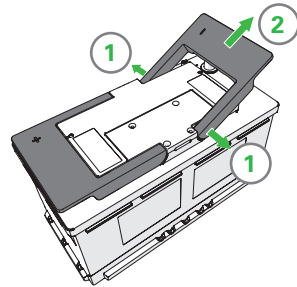

Figure 7.
- b) Remove the handles by pulling them outwards. (Figure 7)